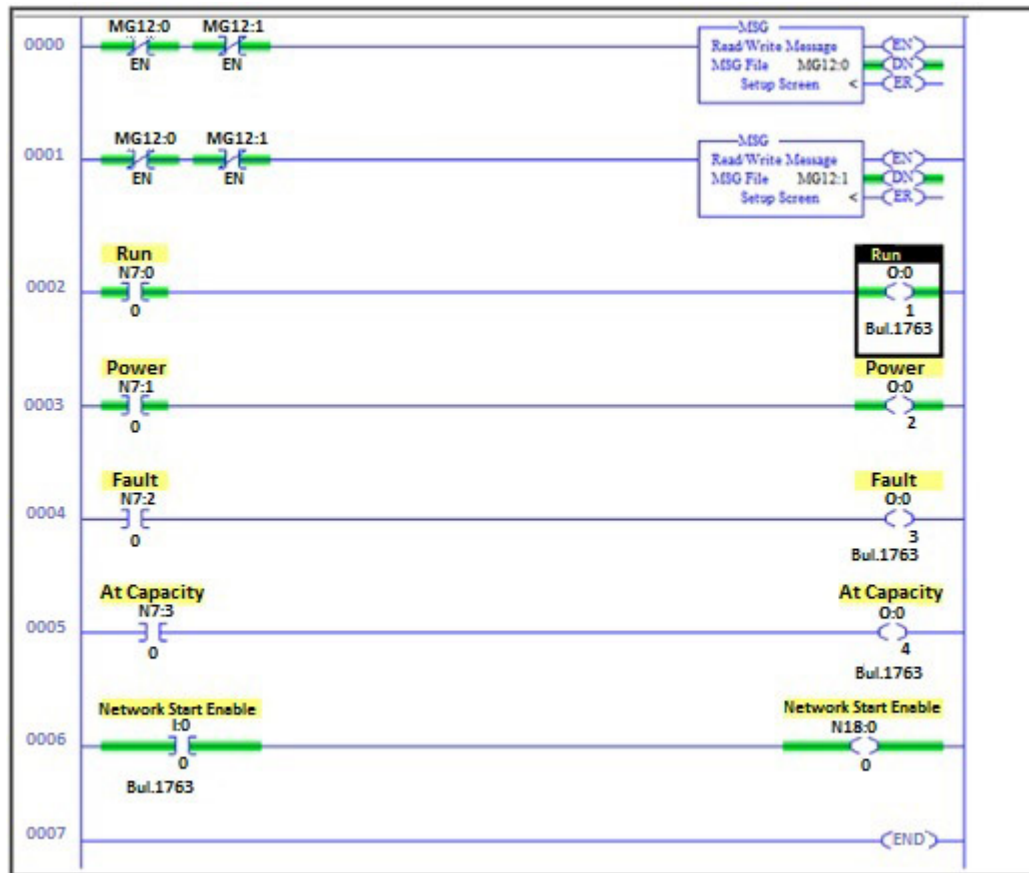

Figure 63: Ladder Logic Diagram
- The Message Structure settings are shown in Figure 63 (write command) and Figure 64 (read command).